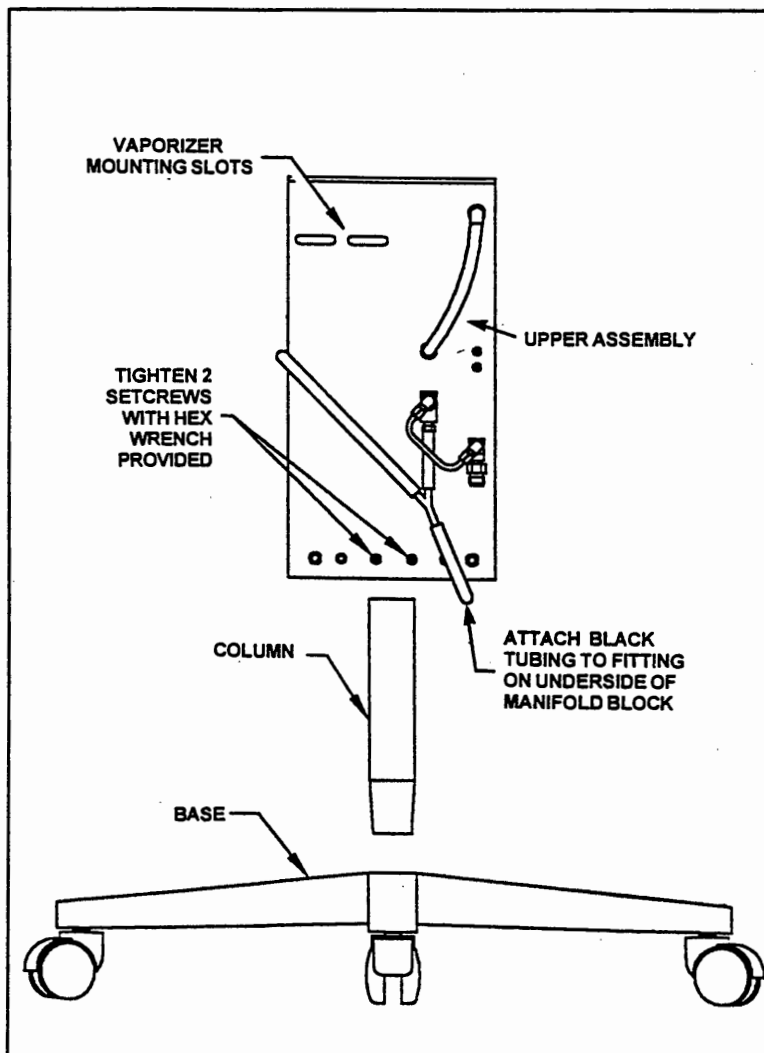

Figure 2. VME Small Animal Anesthesia Machine Assembly
Refer to Figure 2 and assemble the VME small animal anesthesia machine as follows:
3. Attach loose end of black tubing to fitting on underside of block. see Figure 2.
The vaporizer (not included) mounts to the panel of the VME upper assembly through two long slots shown in Figure 2. Mount vaporizer by: